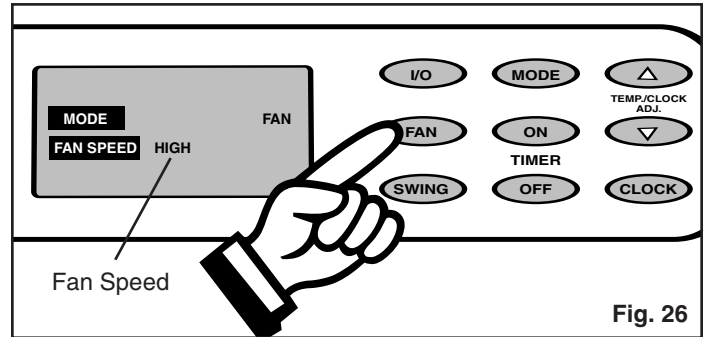

Fig. 26
- 3) Press the **FAN** key to select the desired **FAN SPEED** setting. *Fig. 26*. Your selection will be displayed in the **LCD** window. Each depression of the fan key will advance to a different speed (**Low-Med-High**).